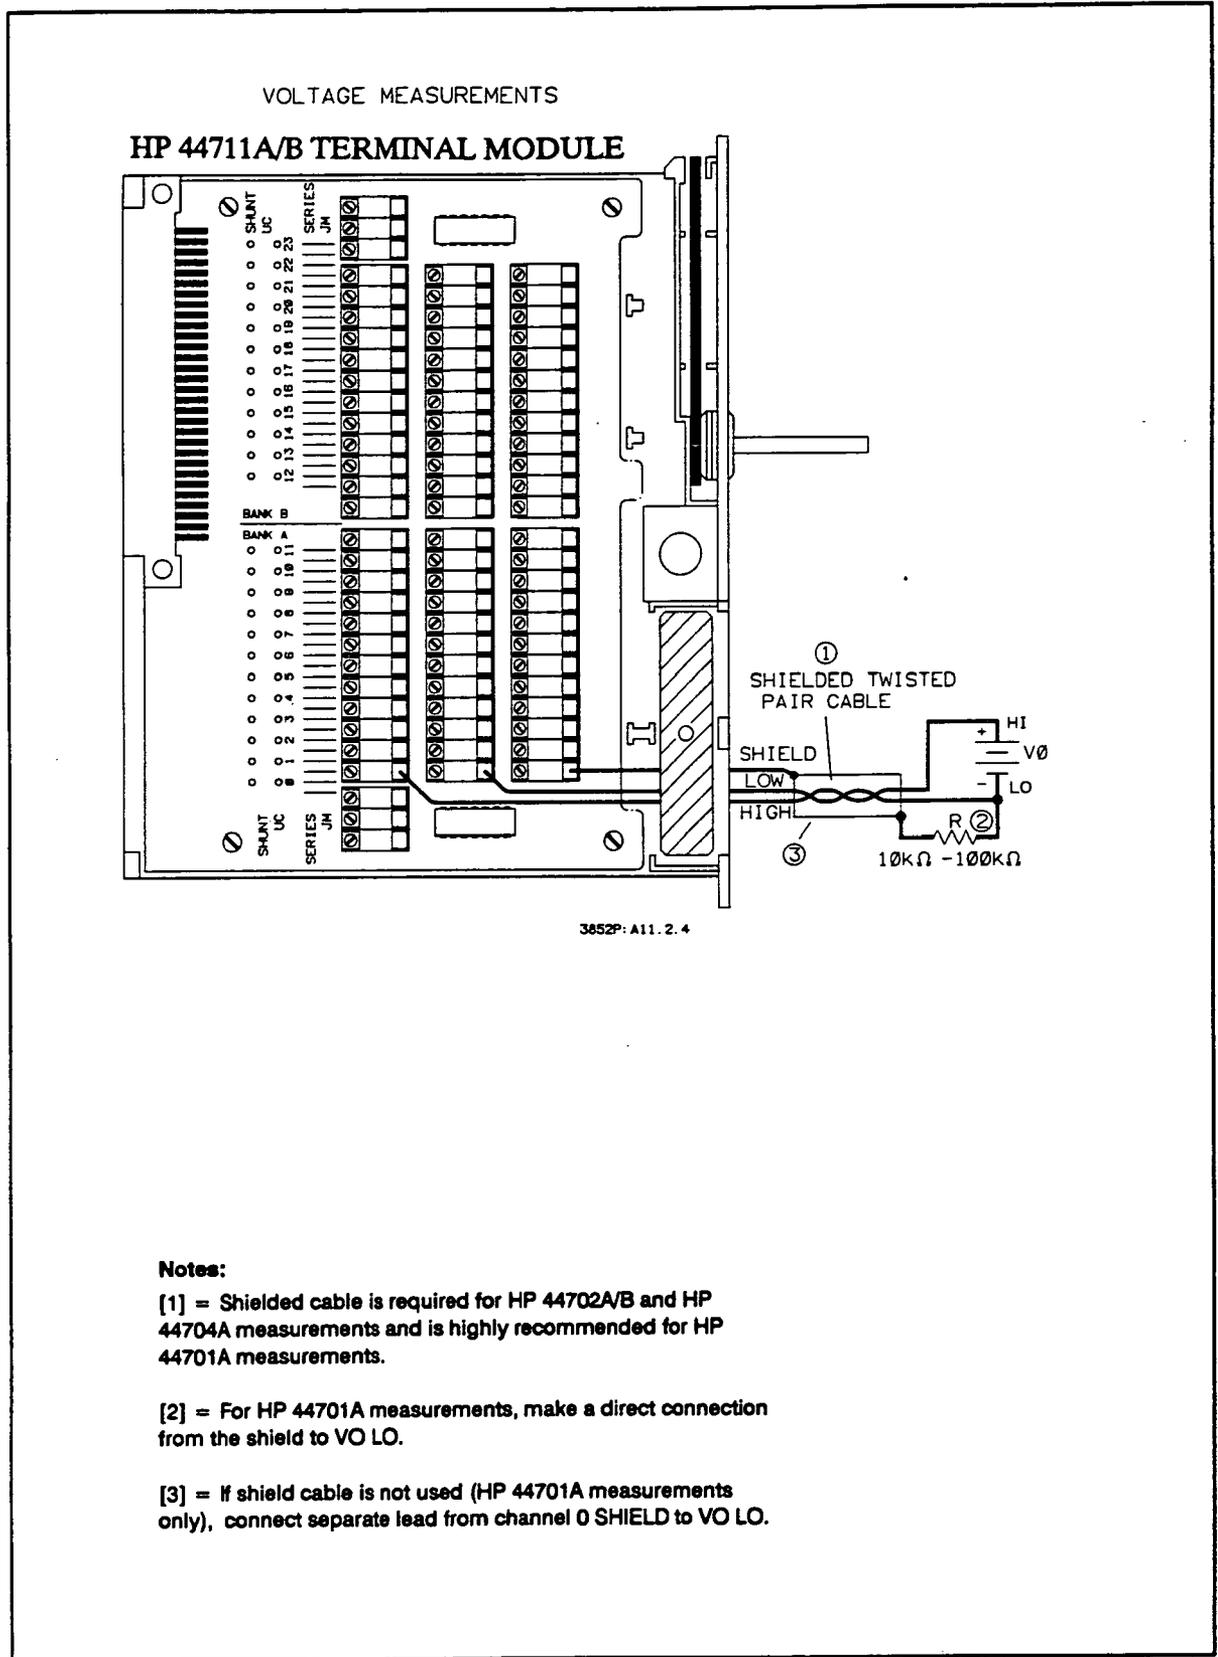

Figure 2-4. HP 44711A/B Voltage Connections
Figure 2-4 shows typical voltage measurement connections to channel 0 on the terminal module. Note that shielded cable is required for measurements with the HP 44702A/B and HP 44704A voltmeter and is highly recommended for measurements with the HP 44701A voltmeter. For the HP 44702A/B voltmeter, connect an external resistor (R) between V0 LO and the shield, as shown in Figure 2-4.